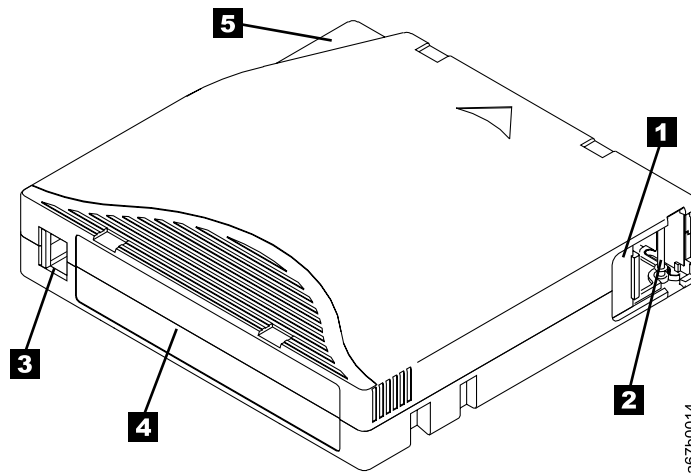

Figure 12. The IBM LTO Ultrium Data Cartridge
Figure 12 shows the IBM LTO Ultrium Data Cartridge and its components.
The cartridge door ( **1** in Figure 12 on page 35) protects the tape from contamination when the cartridge is out of the drive. Behind the door, the tape is attached to a leader pin **2**. When you insert the cartridge into the drive, a threading mechanism pulls the pin (and tape) out of the cartridge, across the drive head, and onto a non-removable takeup reel. The head can then read or write data from or to the tape.
When attaching a bar code label to a tape cartridge, place the label only in the recessed label area (see **4** in Figure 12 on page 35). A label that extends outside of the recessed area can cause loading problems in the drive or the autoloader.
- Position the label within the recessed label area (see **4** in Figure 12 on page 35).